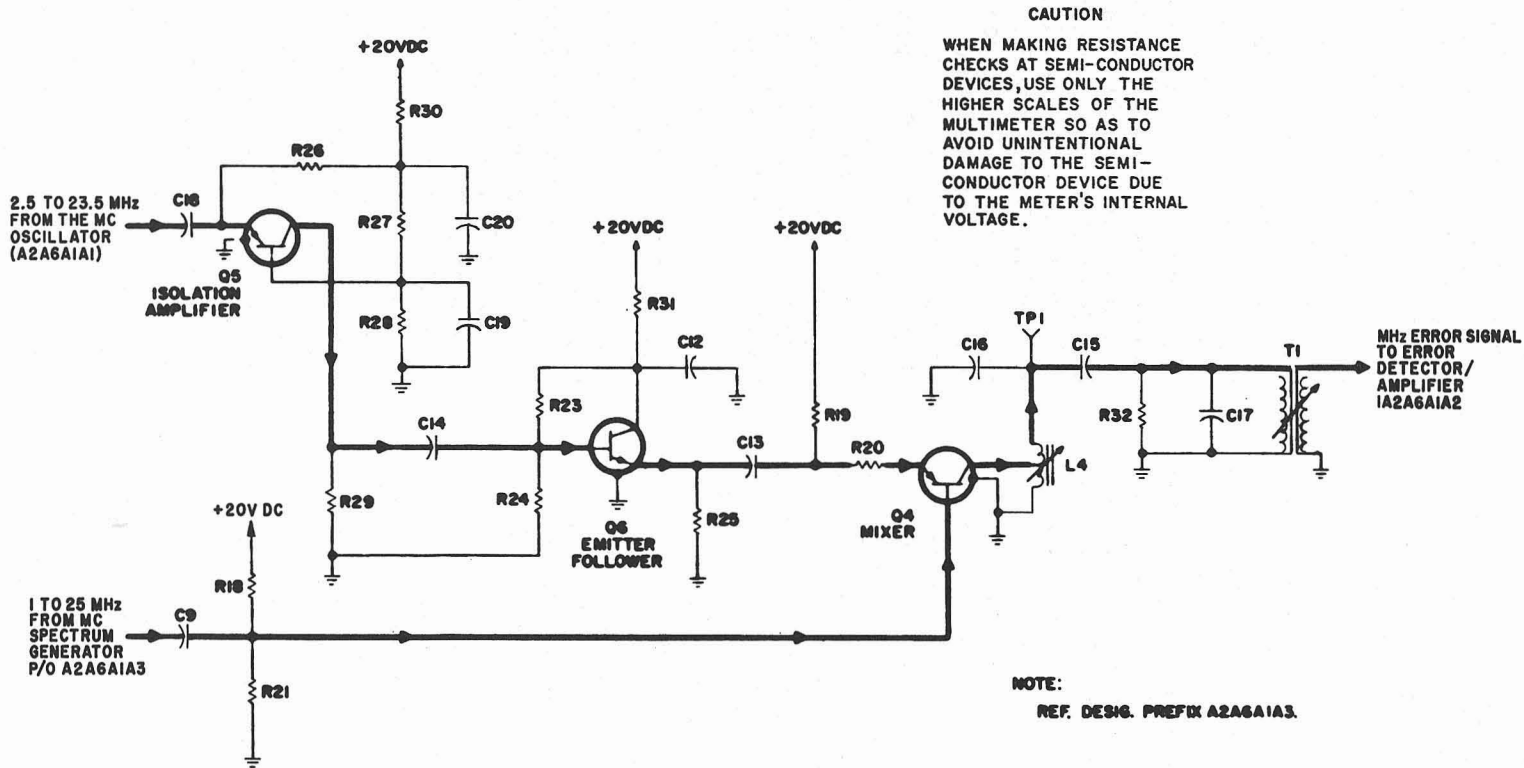

Figure 3-25. MC Error Mixer, Simplified Schematic Diagram
w. MC ERROR MIXER. - The mc error mixer portion of A2A6A1A3 (figure 3-25) consists of isolation amplifier Q5, emitter follower Q6, and mixer Q4. These circuits, which form a part of mc synthesizer electronic subassembly A2A6A1, mix the signal from the mc oscillator with the signal from the mc spectrum generator. This produces an error signal which, in the locked condition, is proportional to the phase relationship between the spectrum